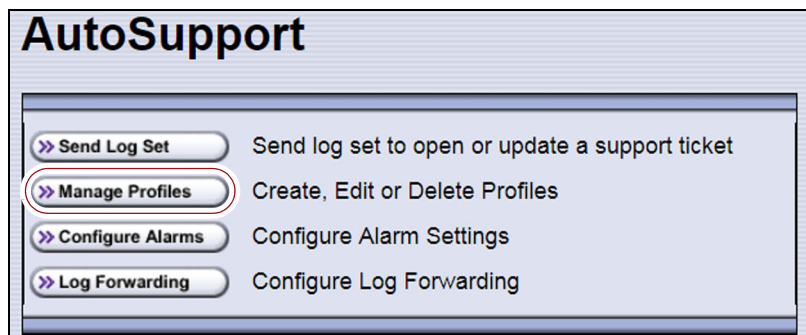

Figure 164 Click **Manage Profiles** to create or edit an AutoSupport profile.
If one of the profiles is configured as an AutoSend recipient, the **Configure Alarms** button is active (see Figure 164 on page 310).
2. From the toolbar menu, select **Maintenance ... AutoSupport**. The AutoSupport screen displays (see Figure 164 on page 310).